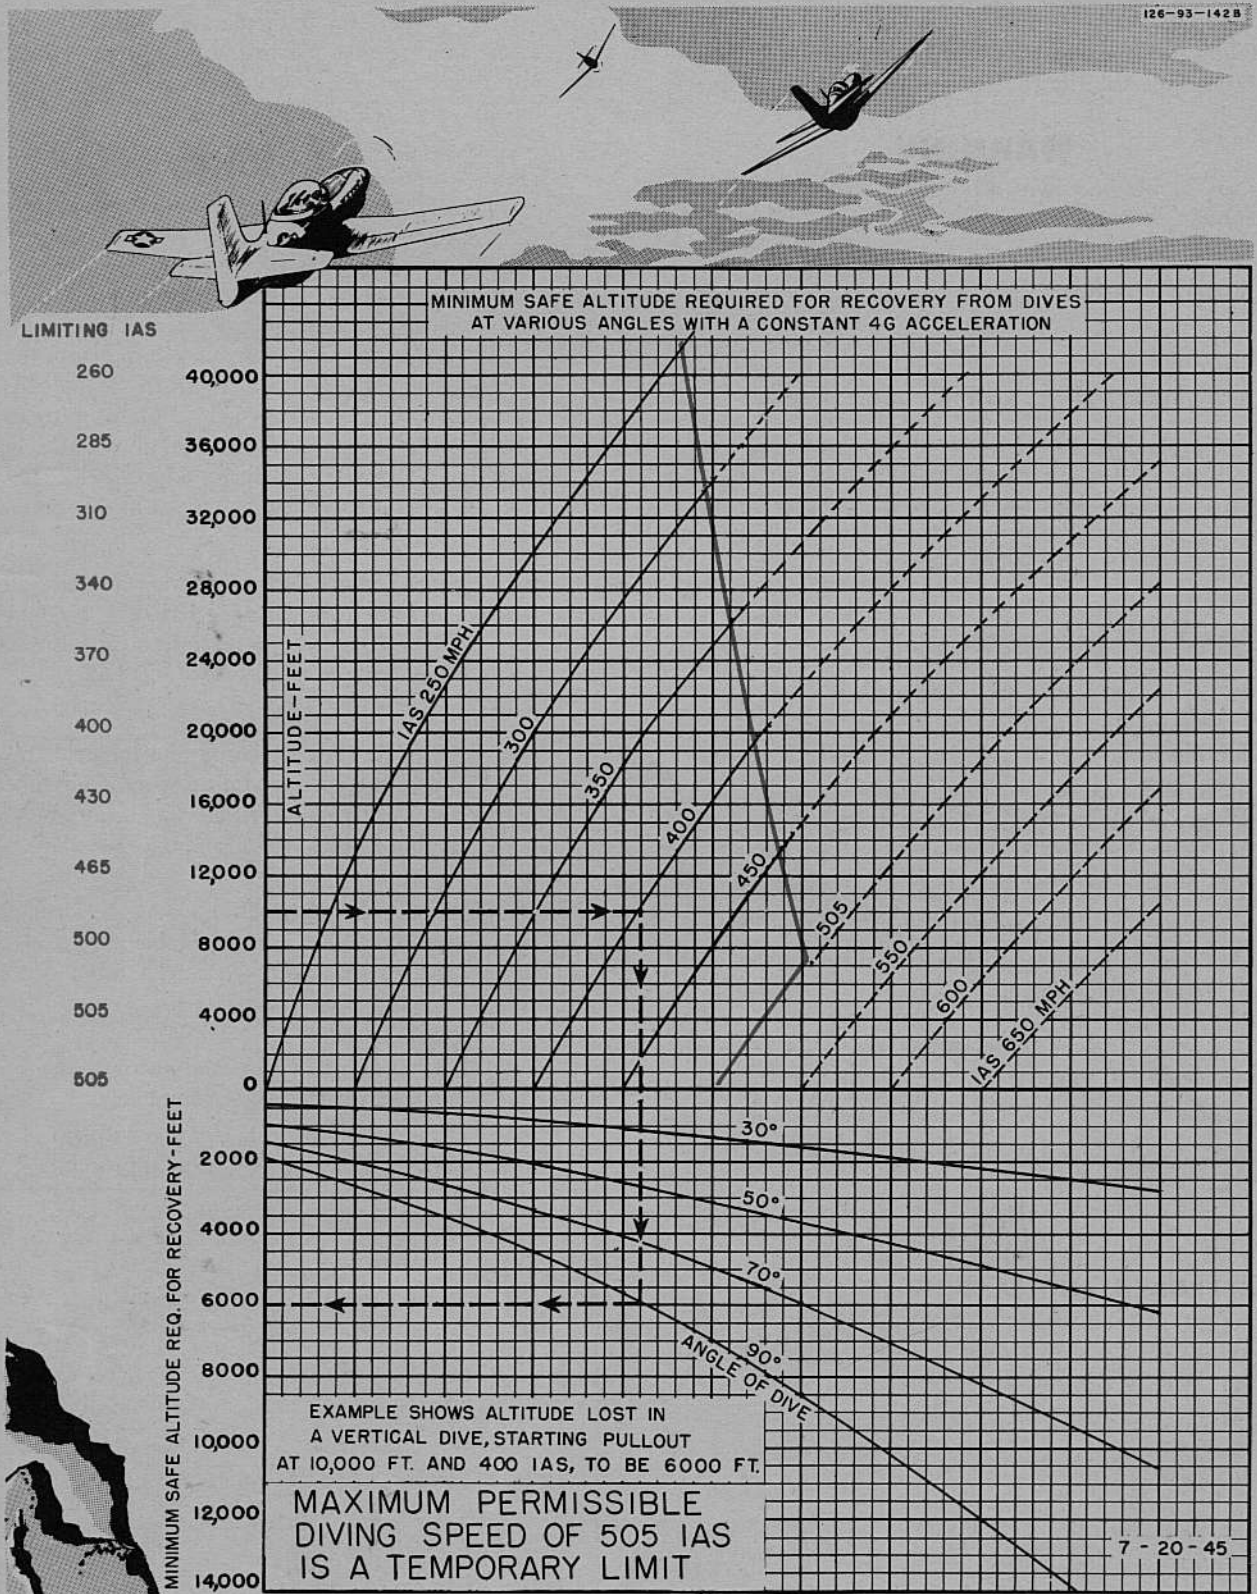

Figure 12-Diving Limitations
b. **ALTITUDE REQUIRED FOR PULL-OUT.**—Figure 12 shows the minimum safe altitude required for a pull-out from dives, with a constant 4-G acceleration.
c. **RECOVERY.**—If, through necessity or inadvertence, the diving limits shown on figure 12 are exceeded and pronounced compressibility effects are experienced, pull up very gradually.